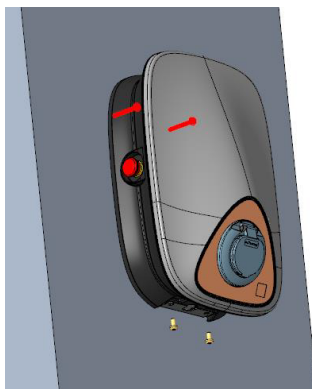

Figure 7: Fixing the pile on the wall
10. Install the pile from top to bottom, hang the pile on two expansion screws above, and then fix the bottom of the pile on the wall hanging parts with two M6 hexagonal head pattern screws. (Figure 7)